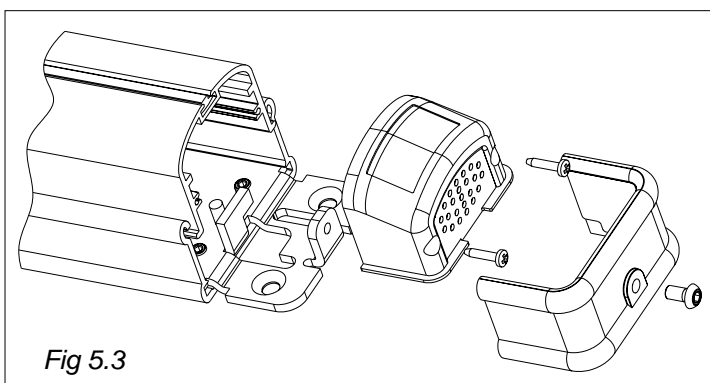

Fig 5.3
- 3) Remove cover from opposite end using Allen key. (See Fig 5.3)